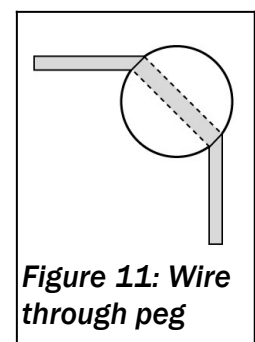

Figure 11: Wire through peg
- ✓ I recommend orienting the peg so the wire makes two 45° turns, as seen in Figure 11. This makes it a bit easier to move the wire through a corner hole if adjustments are needed while wiring the antenna.